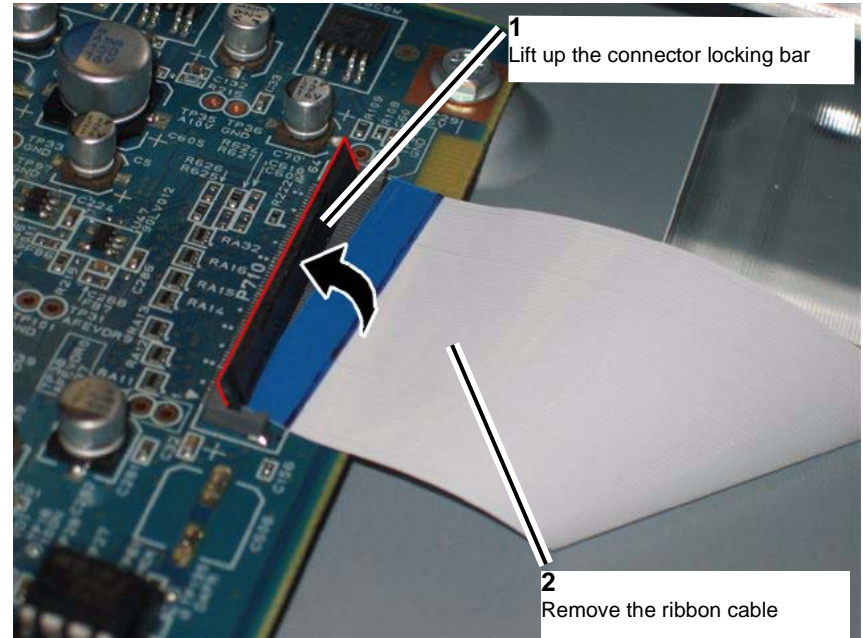

Figure 7 Disconnecting the large ribbon cable
9. Disconnect the large ribbon cable on the IIT/IPS PWB. (Figure 7)